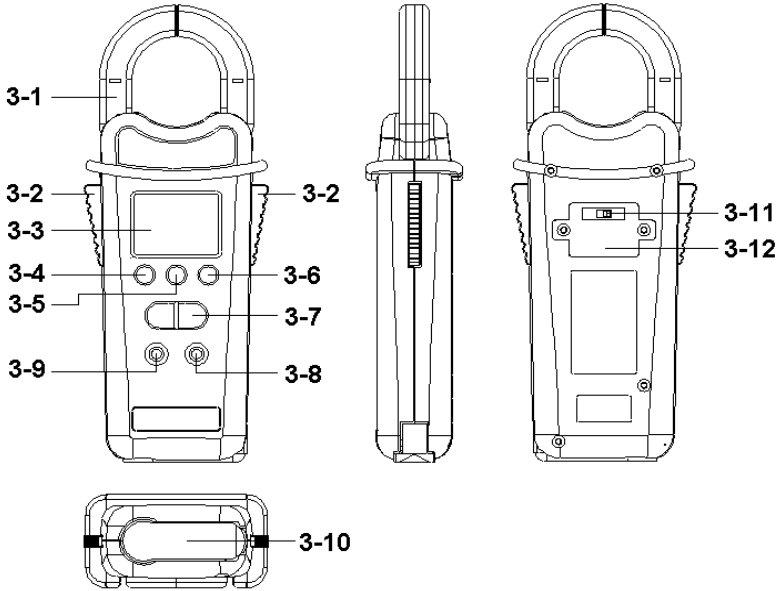

Fig. 1
- 1) Select the " Power type switch " (3-11, Fig. 1) to the " G position " (Green power position).
There is a " Power generator's handle " (3-10, Fig. 1) on the bottom of the housing case.
- 1) Install the " DC3V battery (CR-2032) x 2 PCs " into the " Battery compartment " (3-12, Fig. 1)
- 1) Pressing the " Power On button " (3-4, Fig. 1) once, the meter will be power On.
Pressing the " Power On button " (3-4, Fig. 1) once again, the meter will be power Off..
- 1) Select the " Function switch " (3-7, Fig. 1) to the " A " position.
- 2) Power On the meter by pressing the " Power On/Off button " (3-4, Fig. 1) once, the Display will show " \sim AC ", " A " and " AUTO " indicator, now the meter is under " Auto range " current measurement.
- 3) Press the " Trigger " (3-2, fig. 1) to open the " Current Sensor Jaws " (3-1, Fig. 1) and clamp on the measured conductor, the display will show the measurement ACA current value automatically (auto range).
- 1) During the current measurement, if press the " Hold button " (3-5, Fig. 1) will freeze the measurement current value. In the same time the Display will show "  " and " MANU " indicator.
- 1) Connect BLACK test lead into " COM " terminal (3-9, Fig. 1).
- 2) Connect RED test lead into " V " terminal (3-8, Fig. 1).
- 3) Select the " Function switch " (3-7, Fig. 1) to the " V " position.
- 4) Power On the meter by pressing the " Power On/Off button " (3-4, Fig. 1) once, the Display will show " SMART ", the meter is under " Smart " mode for voltage measurement.
- 2) Connect RED test lead into " Ω " terminal (3-8, Fig. 1).
- 3) Select the " Function switch " (3-7, Fig. 1) to the " Ω " position.
- 4) Power On the meter by pressing the " Power On/Off button " (3-4, Fig. 1) once, the Display will show " SMART ", the meter is under " Smart " mode for resistance measurement.
- 4) Power On the meter by pressing the " Power On/OFF button " (3-4, Fig. 1) once, the Display will show " SMART ", the meter is under " Smart " mode for Continuity measurement.
- 3) Select the " Function switch " (3-7, Fig. 1) to " Ω " position.
- 4) Power On the meter by pressing the " Power On/Off button " (3-4, Fig. 1) once, the Display will show " SMART ", the meter is under " Smart " mode for Diode measurement.
- 3) Select the " Function rotary switch " (3-7, Fig. 1) to the " Ω " position.
- 4) Power On the meter by pressing the " Power On/Off button " (3-4, Fig. 1) once, the Display will show " SMART ", the meter is under " Smart " mode for capacitance measurement.